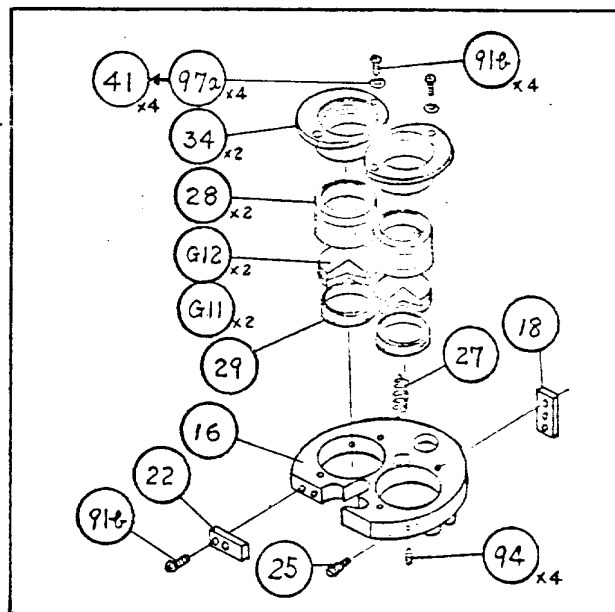

Fig. 56
The deviated collimator reticle image is to be brought back to the center by adjusting the lens cell (34) of G11, 12 (Fig. 56).
### 2) Parfocal adjustment for the low magnification (Fig. 56)
### 3) Checking the parfocal zooming at intermediate magnification (Fig. 56, 57).